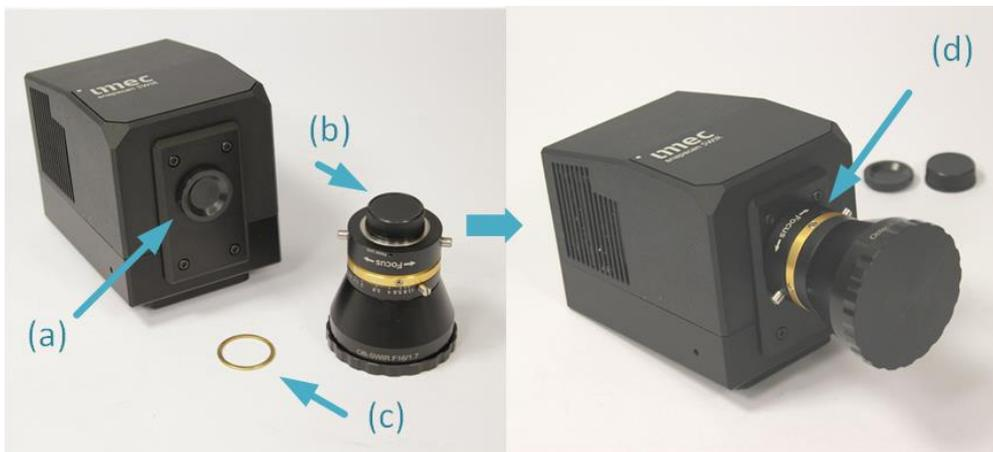
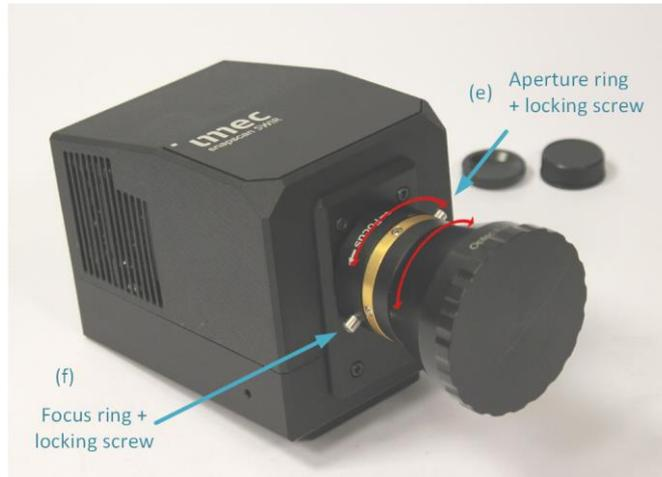

Figure 40 Mounting lens on the snapscan camera (Step 5.1)
Figure 41 Focusing and setting the aperture of the lens
Step 7.1 Mount the lens on the snapscan SWIR camera (Figure 40, Figure 41)